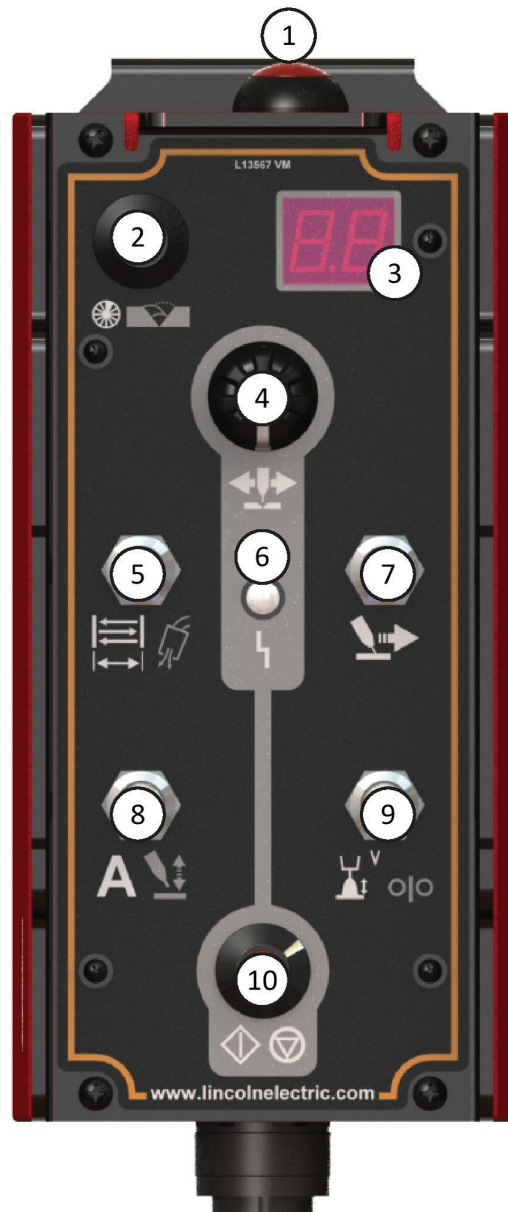

FIGURE 2 - Operator Pendant Buttons
The Operator Pendant display (item # 3 in **FIGURE 2 - Operator Pendant Buttons on page B-2**) indicates the Pass number (P1, P2, etc.) of the current selected pass.
- If you selected a Program base that has multiple passes, pressing the **Sector / Pass** button (Item # 2 in **FIGURE 2 - Operator Pendant Buttons on page B-2**) will step from one pass to the next.
- If there is more than one section in the selected program, pressing the **Selector / Pass** button (Item # 2 in **FIGURE 2 - Operator Pendant Buttons on page B-2**) while welding causes the weld process to step from one sector to another. The Operator Pendant displays the current sector (S1, S2, etc.) while welding.
To enter the Diagnostics of the operator pendant, cycle power to the system. While the system is mapping and the 7-segment display is showing a rotating motion with the LEDs, press and hold down the Sector / Pass button (Item # 2) and the Steering Knob Pushbutton (Item # 4) simultaneously (see **FIGURE 2 - Operator Pendant Buttons on page B-2**). The ArcLink network on the operator pendant resets twice after a power cycle, so press the two buttons simultaneously after the pendant flashes 'on' for the second time. Feel free to press the buttons multiple times to allow the pendant to capture the button presses. They must be pressed simultaneously to enter into the test program. You will know you entered the Diagnostics mode once the 7-segment display shows '88' (i.e., all segments are on) and also flashes '88' a couple of times. Once it is ready, a '7 and a Reverse 7' will be displayed.
The remaining steps reference the buttons, knobs and switches called out in **FIGURE 2 - Operator Pendant Buttons on page B-2**.